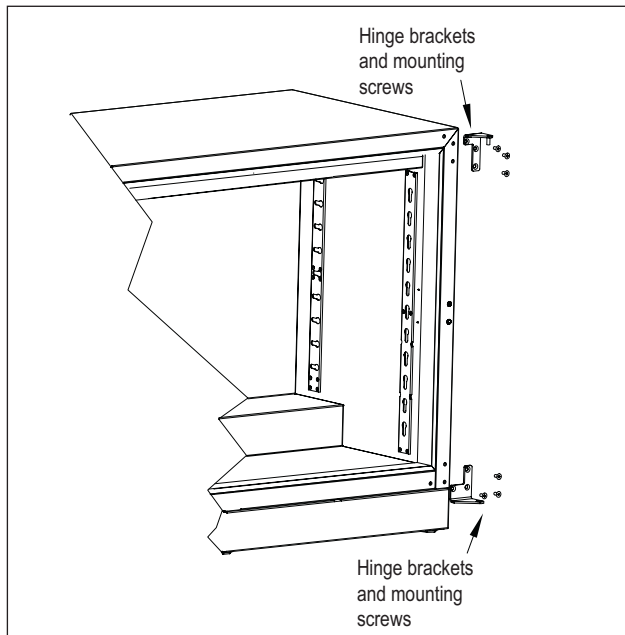

Figure 5. Hinge Installation
- Using the screws removed in step 3, install the top and bottom hinge brackets from kit (Figure 5).